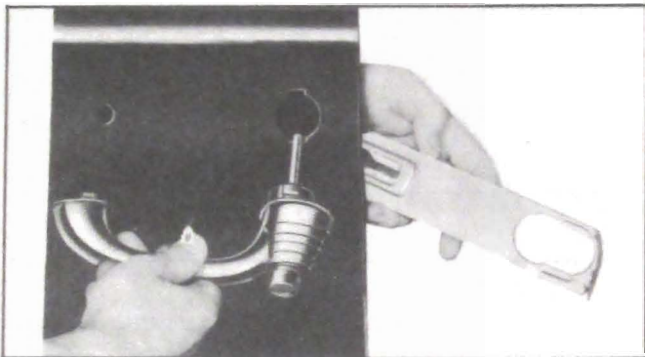

Figure 13-4—Removal of Door Outside Handle
2. Remove screw holding handle retainer to pillar face and pull retainer out until handle can be removed. See figure 13-4.